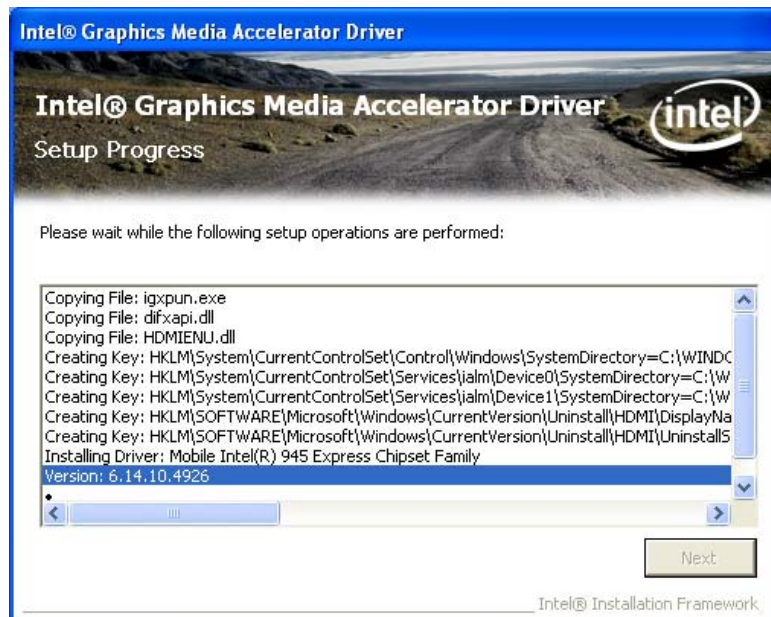

Figure 7-12: Graphics Driver Setup Operations
Step 14: Setup Operations are performed as shown in Figure 7-12.